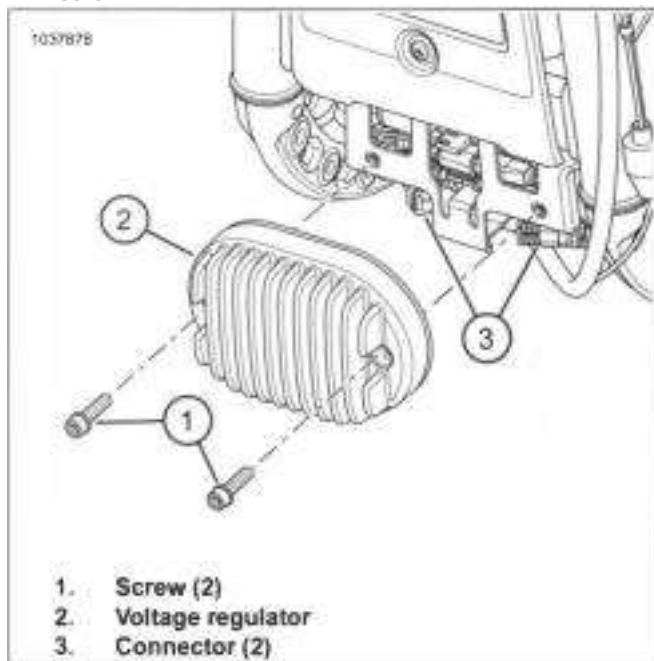

Figure 7-9. Voltage Regulator
1. See Figure 7-9 Remove screws (1).
2. Remove voltage regulator (2).
3. Disconnect voltage regulator connectors (3).
2. See Figure 7-9. Connect voltage regulator connectors (3).
3. Align voltage regulator (2) to mounting bracket.
4. Install screws (1). Tighten.